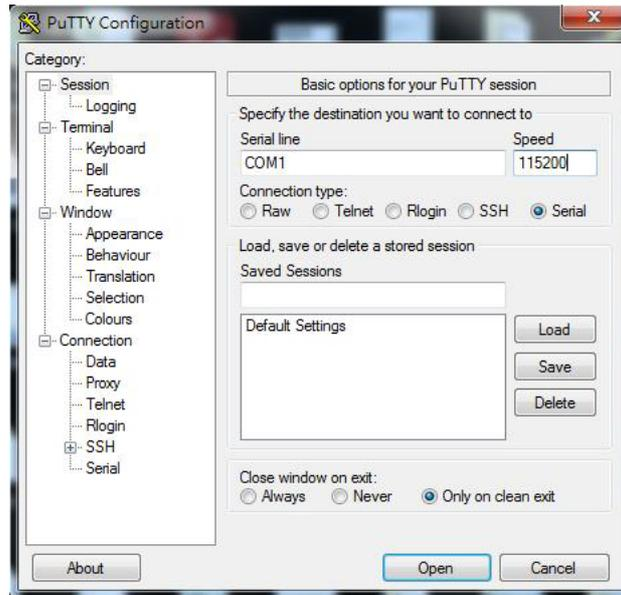

Figure 4.1 PuTTY Configuration
2. Open PuTTY on the host computer, and select the settings as shown in Figure 4.1.